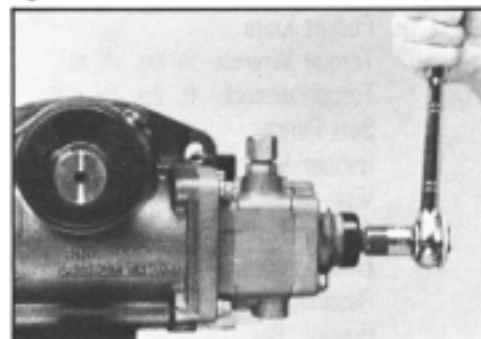

Figure 44
the worm shaft until the timing mark on the end of the sector shaft (51) is vertical to the worm shaft. This will position the gear for sector shaft removal. SEE FIGURE 44.